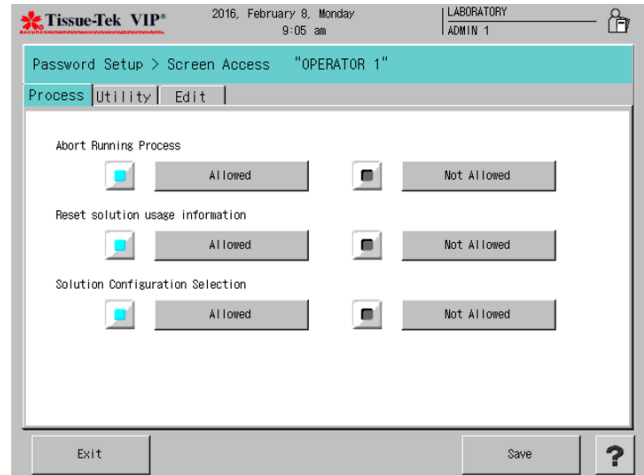

Figure 3-K
- The Password Setup>Screen Access screen displays (Figure 3-K). This screen displays three tabbed pages: Process, Utility, and Edit. Each tabbed page enables the administrator to grant or deny a user access to specific functions.
**Process Tab** (Figure 3-K) – sets permissions for Abort Running Process, Reset Solution Usage Information, and Solution Configuration Selection. The default setting for each function is “Allowed”. Touch each function as necessary to change permissions from Allowed to Not Allowed. Touch Save to save settings and return to the Password Setup screen or touch Exit to return without saving changes.